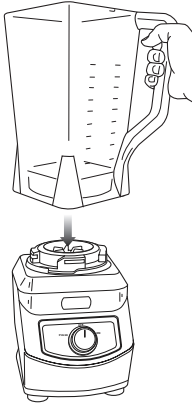

Fig. 1
- 2 Align and lower the Pitcher onto the motor base. **(Fig. 1)** Handle should be aligned slightly to the right of the "LOCK" symbol on the motor base.